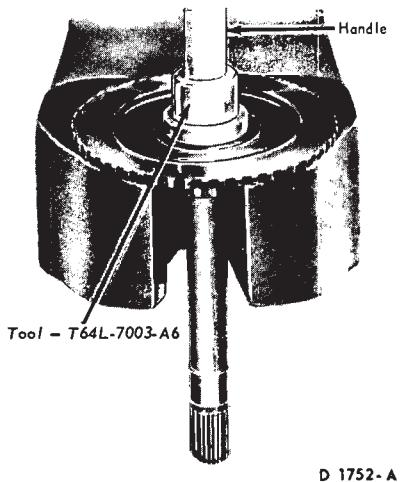

FIG. 36—Installing Input Shaft Bushing
9. Slip a new bushing over the end of the installation tool and position the tool and bushing to the bushing hole. Then, press the bushing into the input shaft as shown in Fig. 36.